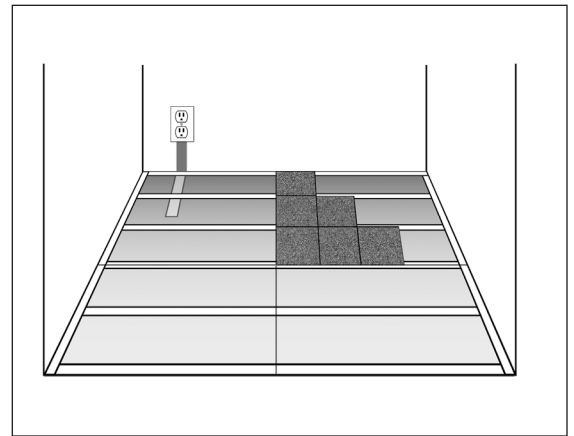

Figure 5: Proper SmartGround and Carpet Tile Installation
- Note: It is important that at least two edges of each StaticSmart carpet tile are making contact with the SmartGround tape during the carpet tile installation, this will ensure proper contact and full grounding. (See Figure 5)